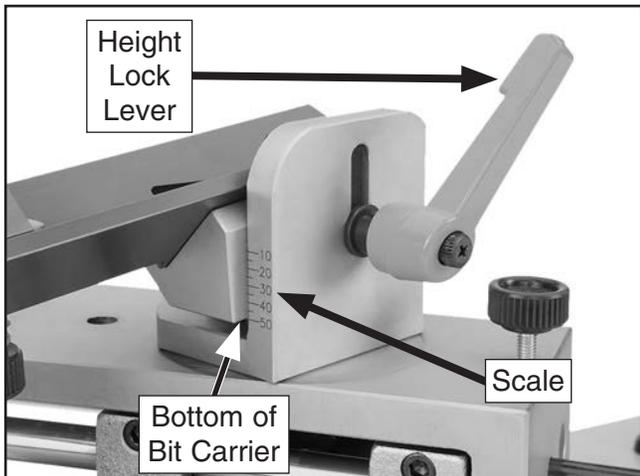

Figure 18. Bit carrier height scale and height lock lever.
4. Loosen the height lock lever (see **Figure 18**).
5. Adjust the height set screw to raise or lower the bit carrier until the bottom of the carrier base is even with the number on the height scale that is equal to the bit's diameter (see **Figures 18–19**). The height scale is in millimeters.